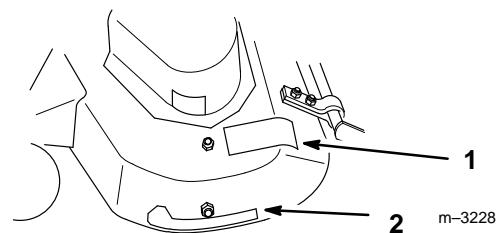

Figure 10
2. Remove backing paper and apply decal to left top of mower as shown (Fig. 10). Smooth from center to edges to remove air bubbles.
3. Install Recycler® decal to left side of mower as shown (Fig. 10).